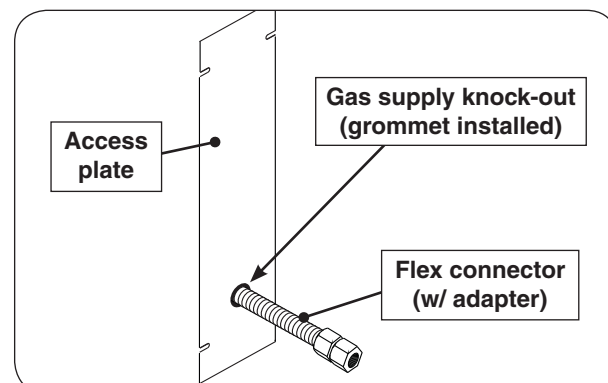

Fig. 20-4 Access plate view & install orientation
2. Remove the plastic grommet (attached to the flex connector) and insert it into the newly created opening. Then route the flex connector through the opening. See Fig. 20-4.